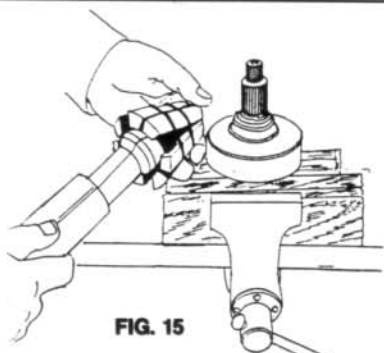

FIG. 15
1. Load SPLIT TUBE SECTIONS into COLLET PULLER as shown. (Fig. 15)